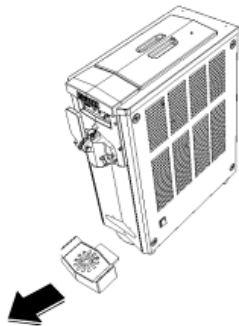

Fig. 47
- Remove the drip tray by pulling it gently outwards (Fig. 47) and wash it thoroughly with hot water and washing-up liquid.